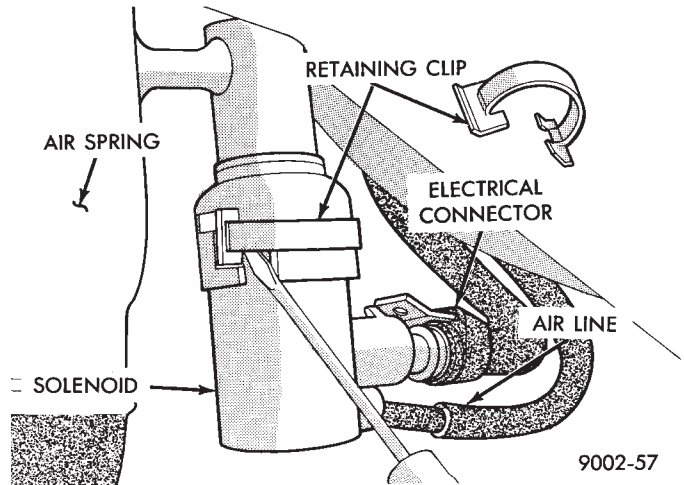

Fig. 14 Remove Retaining Clips
(1) Separate electrical connection to solenoid.
(2) Disconnect air line, see Air Lines and Fittings. Solenoids have molded square tangs to fit into stepped notches of the air spring housing. The notches provide an air relief position and a retaining position. The retaining position is locked with a retaining clip.
(3) Remove retaining clip (Fig. 14).